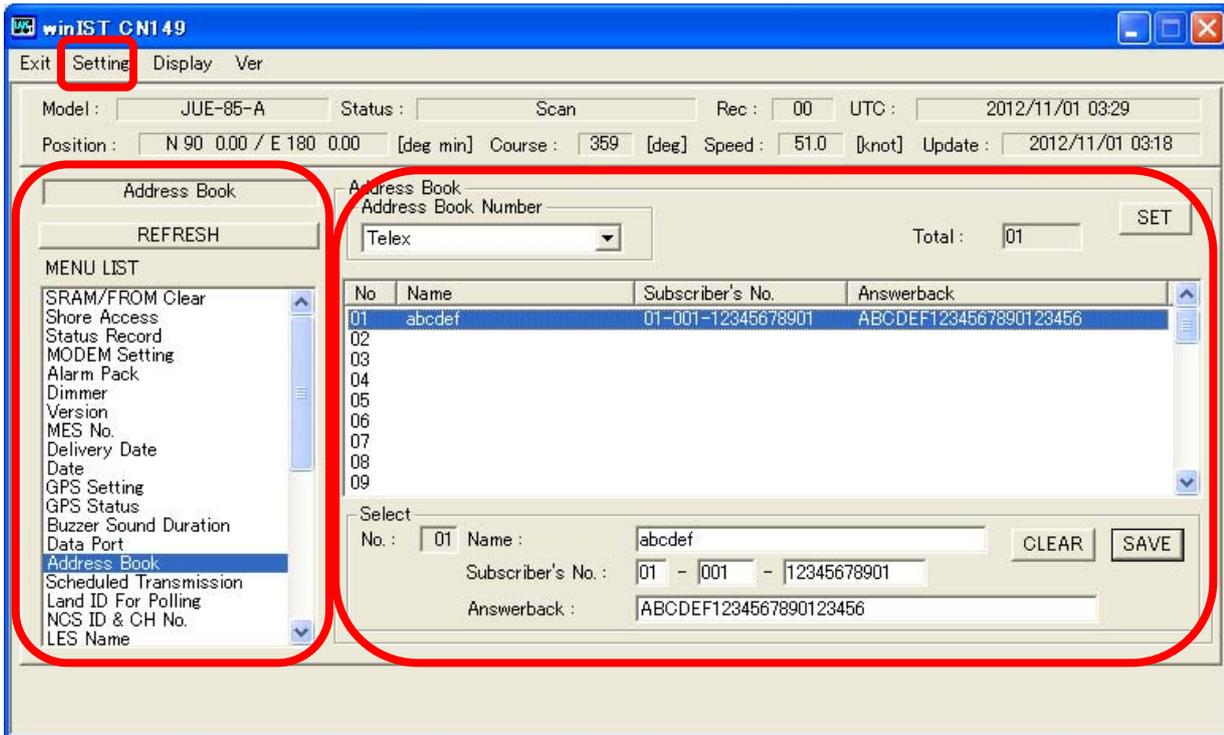

Fig. 4-16-1a [Address Book] screen
2. Operation except [Exit], [Display], and/or [Ver] is not possible while winIST is communicating with INMARSAT terminal(the function in the frame of **Fig. 4-16-1a [Address Book] screen** cannot be operated.)